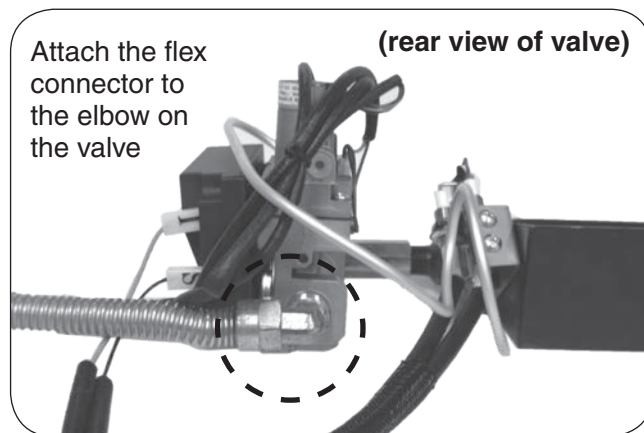
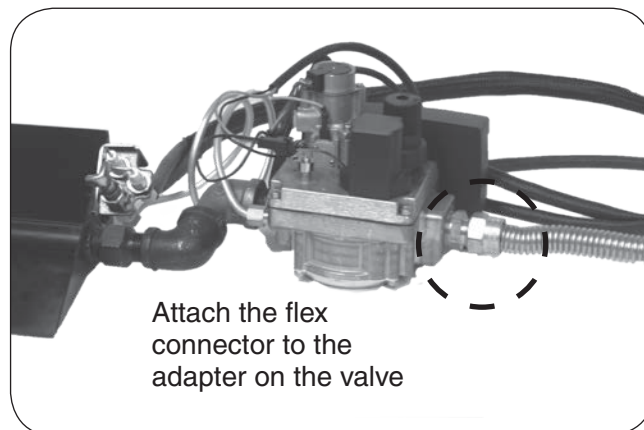

Fig. 9-1 2V models: Attach flex to valve
Fig. 9-2 3V models: Attach flex to valve
3. Discard the small adapter included with burner flex connector kit. Attach one end of the flex connector (included with burner) to the elbow/adapter found on the control valve. Tighten securely. See Fig. 9-1 or Fig. 9-2.